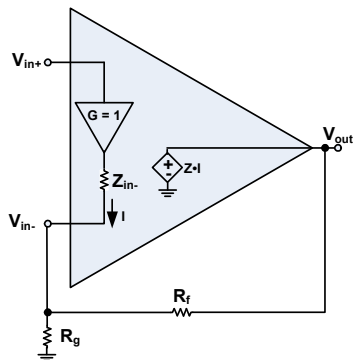

FIGURE 1. THE BLOCK DIAGRAM OF A CURRENT FEEDBACK AMPLIFIER
Figure 1 shows the conceptual approach of the current feedback amplifier. CFAs have a unity gain buffer to force the inverting input (V_{in-}) to follow the non-inverting input (V_{in+}). This topology is very different from the high impedance inputs of the voltage-feedback amplifier. In the CFA case, the inverting input node shows the low input impedance (Z_{in-}) from the output of the buffer. The error signal is the current (I) flowing into or out of the inverting node. The error current is converted by a large transimpedance, Z , to the output voltage. R_f is used to control the feedback current. This is another major deviation from the voltage-feedback topology. In VFAs, the feedback network (R_f and R_g) primarily set the voltage gain. In CFAs, the feedback network does set the gain, but the value of R_f also controls the bandwidth of the amplifier.